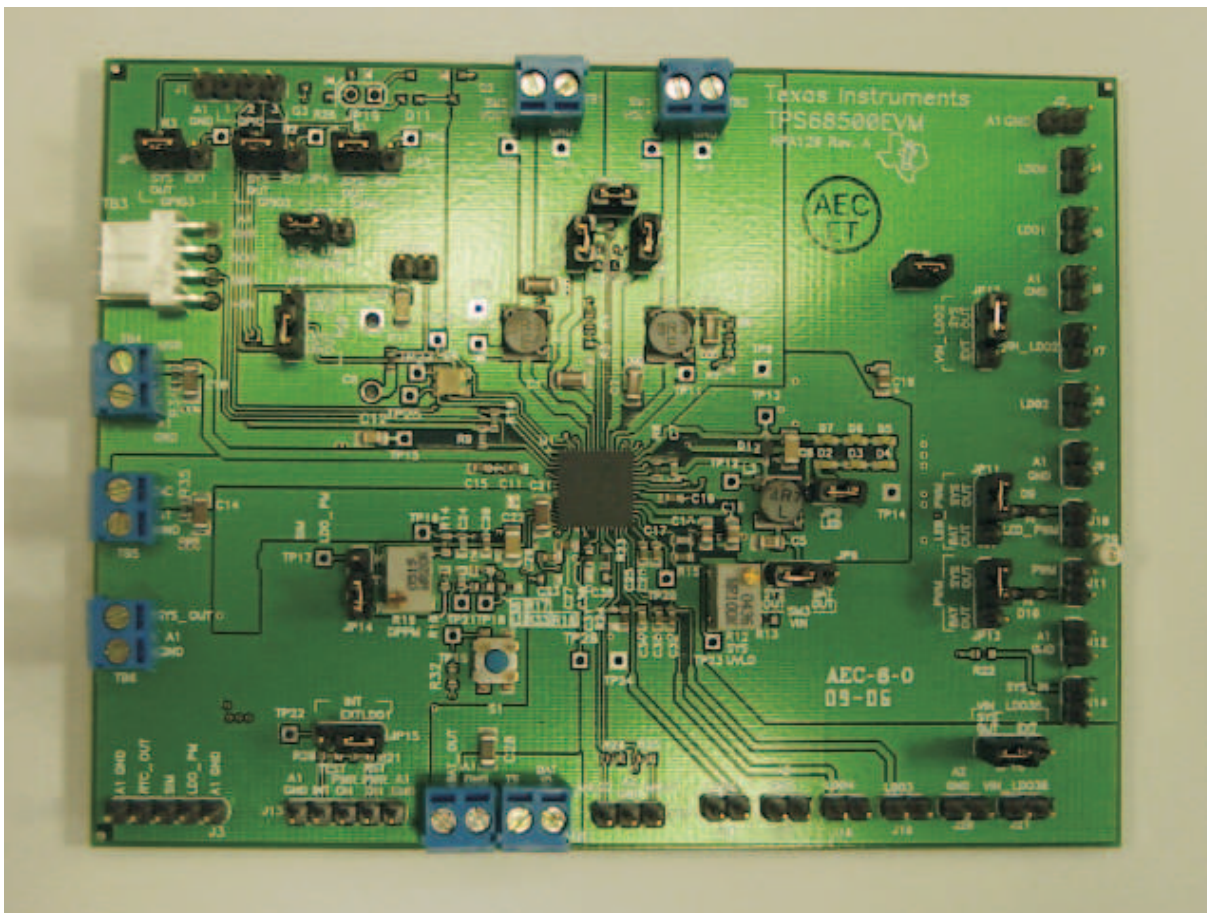

Figure 1. TPS65810EVM Assembly (Similar to Other Versions)
1. Verify that the jumpers are in the correct location. JP5/4/3/8/15/12/11/13/6/16 are to be set to SYS-OUT, JP7 to +5V, JP14 to RES, JP15 to LDO1, and JP12/17/18/9; apply jumper across the two pins. See Figure 1.